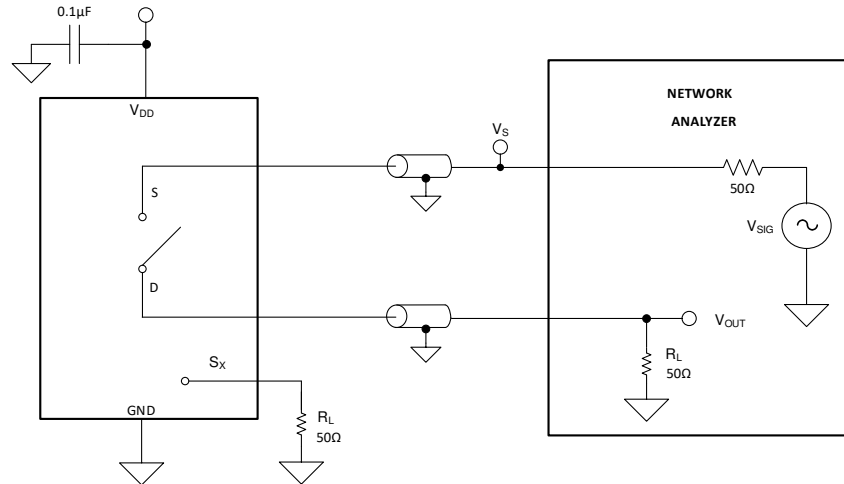

Fig 13. Off Isolation Measurement Setup
Off isolation is defined as the ratio of the signal at the drain pin (D) of the device when a signal is applied to the source pin (Sx) of an off-channel. Fig 13 shows the setup used to measure, and the equation used to calculate off isolation.